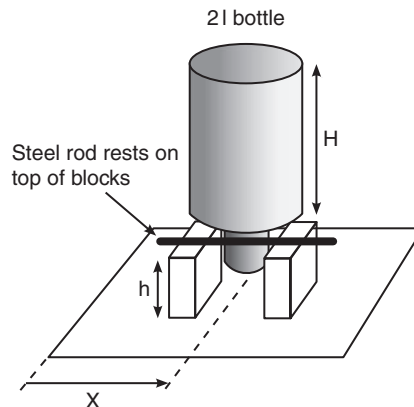

FIGURE 26.9
The experimental setup in Fig. 26.9 can be used to address each of the first four sources of risk just listed. The last item in the list is best handled by computing the overall gear ratio using Eq. (26.9).
1. The control variable is H (refer to Fig. 26.9). Put 10 golf balls into the bottle and measure the minimum H required to hold 10 balls.
11. In the Dueling Duffers concept shown in Fig. 26.9, it was decided to tip the bottle by pushing on it halfway up its surface at $H/2$. How would you develop and experiment to determine the force required at this height to tip the bottle far enough to spill the golf balls?